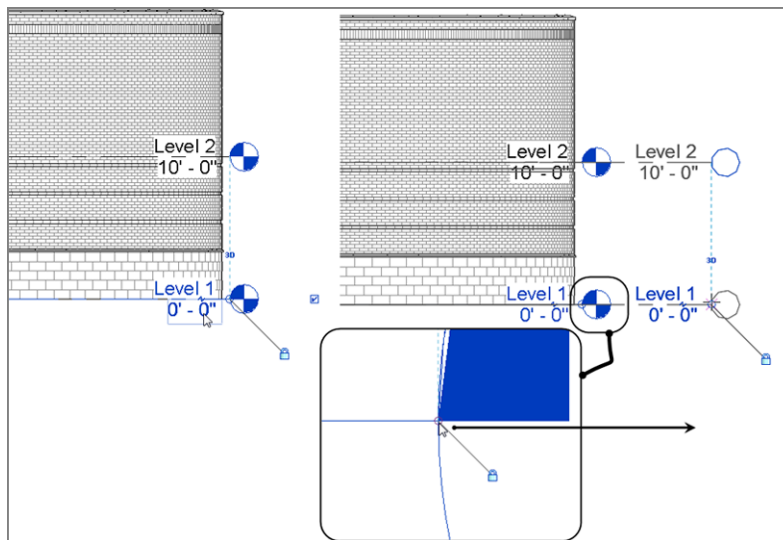

FIGURE 3.3: Picking the grip to drag the level out of the way
2. Pick (left-click) Level 1. Note that you get several blue icons and a lock. Where the actual level line intersects the datum bubble, there is a hollow blue circle (grip), as shown in Figure 3.3, except that your view is slightly obscured by the wall. Move the bubble so you can see the grip clearly.